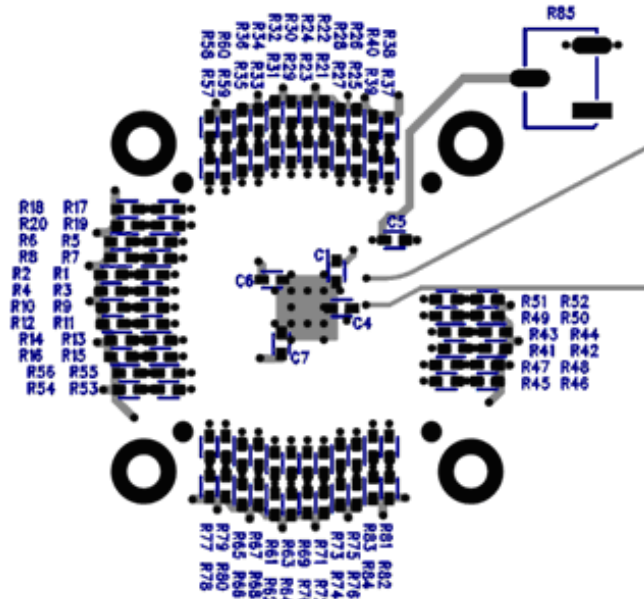

Figure 3. Back D.U.T. Area Detail
3. Back D.U.T. area detail: (See Figure 3) Odd numbered resistors R17 to R81 are populated for 1X load. Even numbered resistors are not populated. The even numbered resistors may be repopulated with 50 Ω (to GND) components to convert the board to 2X load use with 50 Ω scope input impedance loading (presents a 25 Ω parallel load to the device outputs). Even numbered “series shorting” resistors R17 to R81 are populated zero ohm value. These may be repopulated with a series resistor value to improve signal integrity. Components C1, C4, C5, C6, and C7 are 0.01 μF bypass caps.